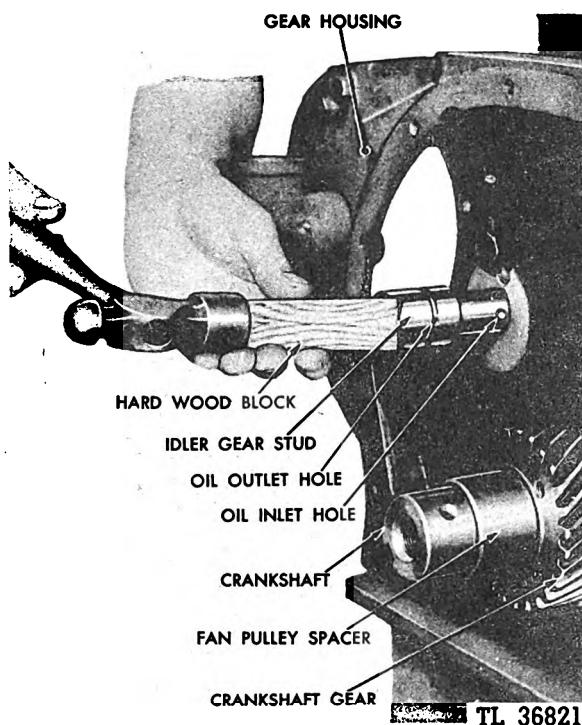

Fig. 169. Installing Idler Gear Stub Shaft
i. *Installing Idler Gear Shaft.* Drive in the idler gear shaft as shown in Figure 169. Be sure to line up the setscrew hole in the shaft with the setscrew hole in the crankcase. DO NOT MISTAKE THE OIL PASSAGE HOLE FOR THE SETSCREW HOLE.